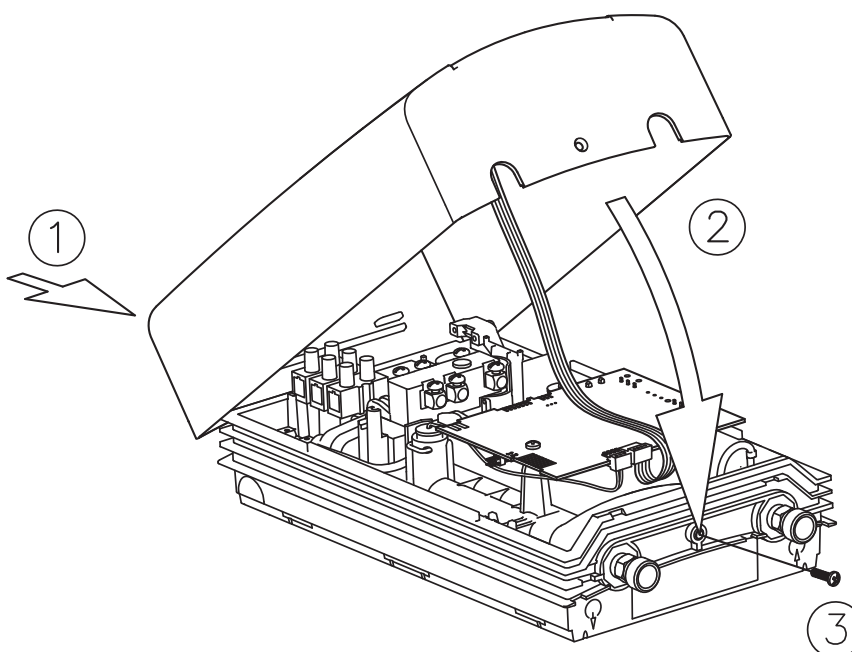

Fig.3
5. Re-fit the appliance cover taking care not to trap the cable from the display panel and secure the cover with the fixing screw shown in Fig.3.